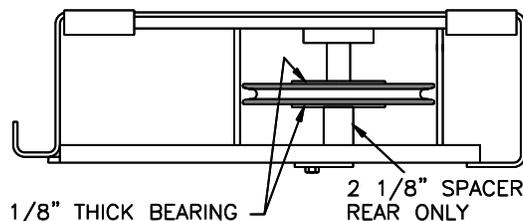

Fig 5 – Rear Single-Stack (idler runway)
- 6) Remove the four (4) cross beam sheaves (one sheave from each end) and the two idler runway sheaves (also one sheave from each end). The runway sheave pins do not need to be removed, just lowered enough to remove the sheaves.
- 11) Reinstall the idler runway sheaves, with one plastic bearing above and below each sheave per **figures 5 & 6**. **Note:** use one 2 1/8" long spacer at the idler rear sheave only.